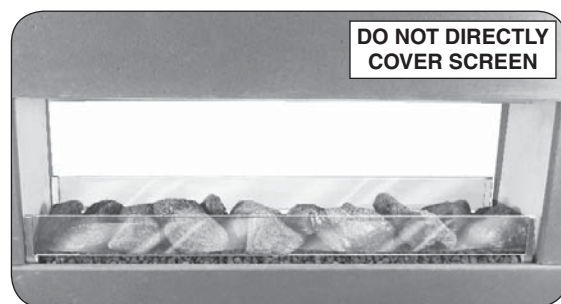

Fig. 23-2 Volcanic stones option
2. Pour the volcanic stones evenly into the burner area (see Fig. 23-2). Store any excess media in a safe location.